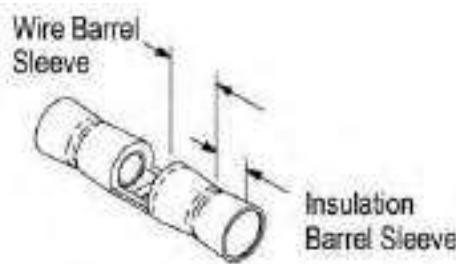

Figure 217
d. Insert wire conductor through the insulation barrel sleeve and into the wire barrel sleeve until it is flush with the outer edge of the wire barrel sleeve (Figure 217).